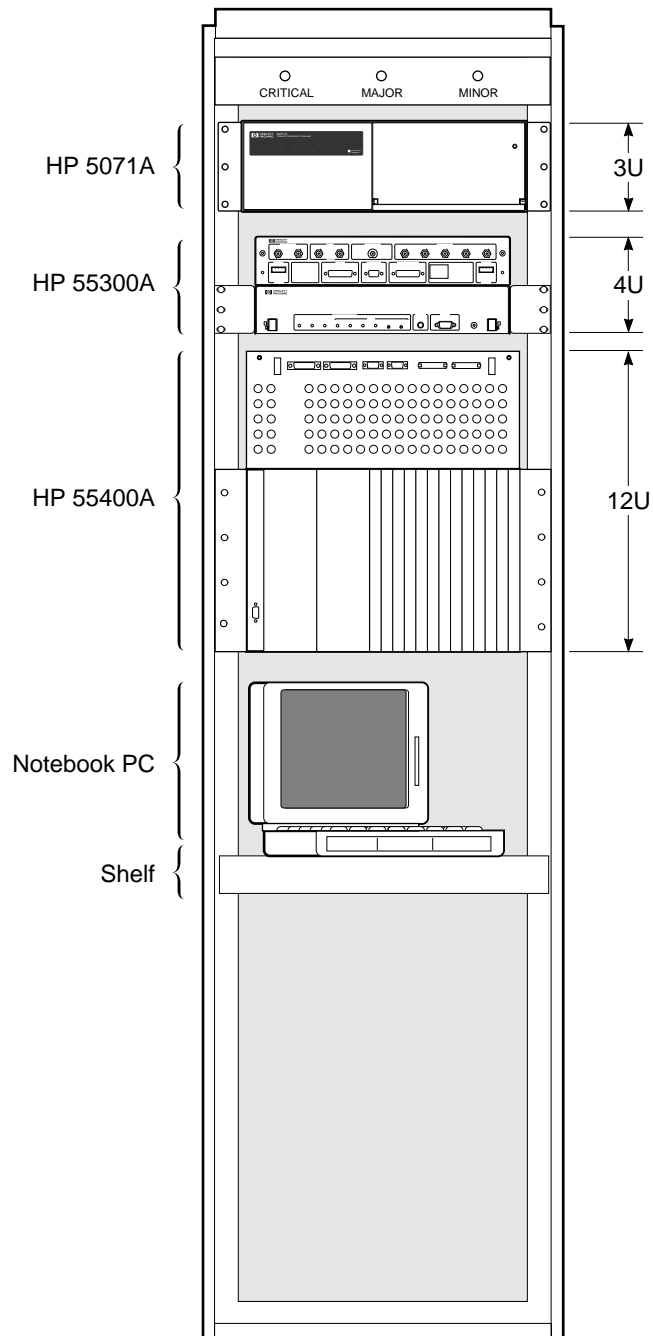

Figure 2. A Typical System Configuration
3.1. A typical system configuration is shown in Figure 2. The system includes the following equipment:
4.5. The dimensions of the equipment shown in Figure 2 are included here so you can estimate the space requirements in your rack. The height is expressed in millimeters and rack units.
6.2. Table 4 lists the maximum current usage for the equipment shown in the system configuration, Figure 2.